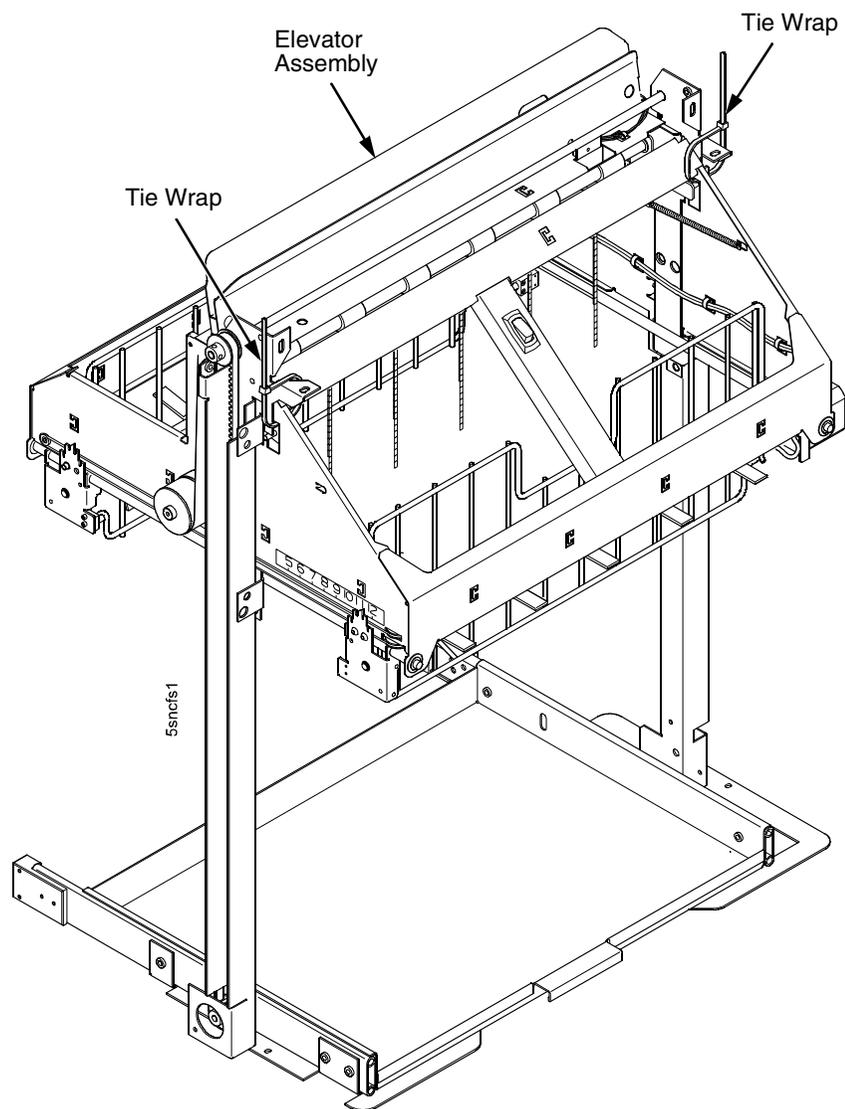

Figure 95. Securing the Elevator Assembly
2. Raise the elevator assembly to its highest position and secure it to the vertical rails using tie wraps or string. Do not over-tighten the tie wraps or string; tighten them just enough to hold the elevator up. (Figure 95)